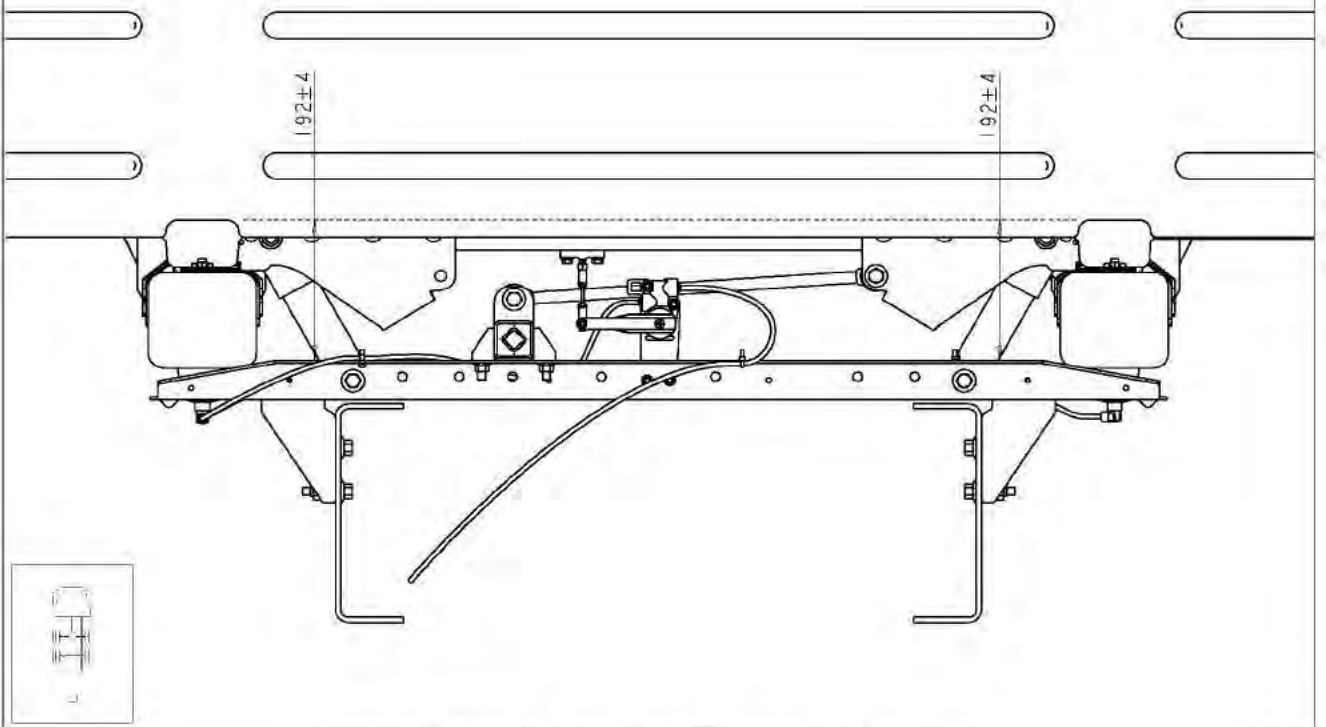

Figure 1 - Air Suspension Sleepers
5.1.1 Air Suspension (Figures 1 & 2)
5.2 Lateral Position (Figures 1 and 2)